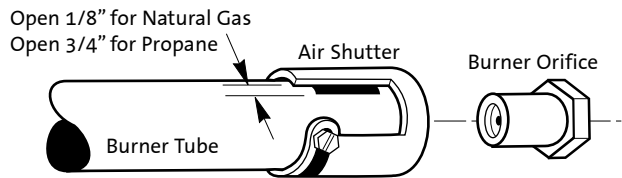

Figure 16. Air Shutter adjustment and Burner Orifice.
10. **Adjust the Air Shutter on the Burner Tube** (15) to allow for the proper mixing of air and gas. See fig. 16. The correct settings: